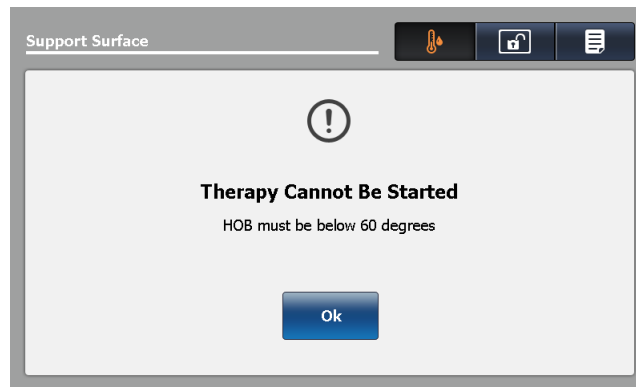

Figure 59: Therapy cannot be started
**Note:** Make sure that the head of bed (HOB) angle is less than or equal to 60° to avoid the therapy cannot be started notification (Figure 59 on page 63).